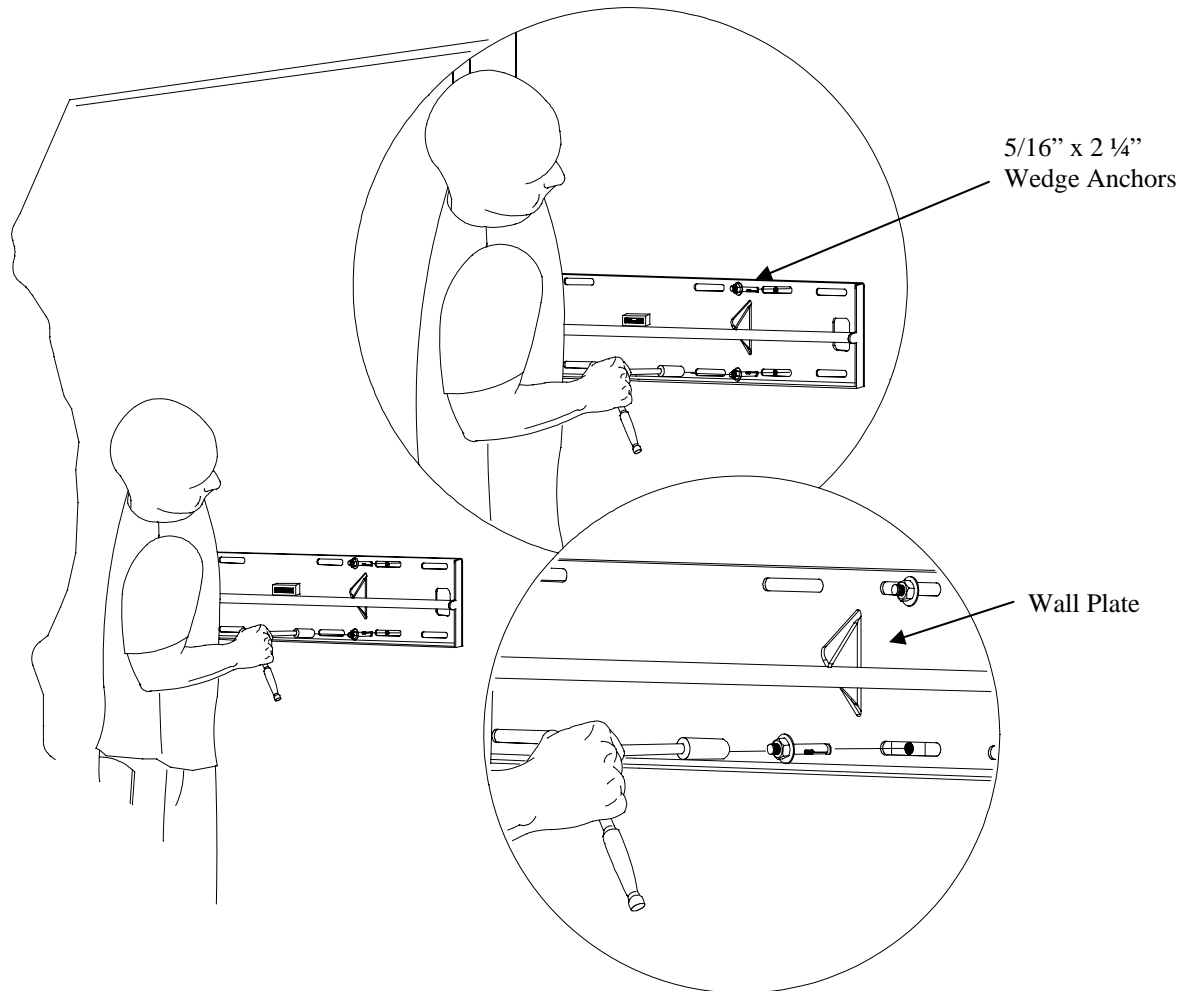

Figure 12. Concrete Installation
2. Use a minimum diameter of 5/16" x 2 1/4" wedge anchors – commercially available (Figure 12).